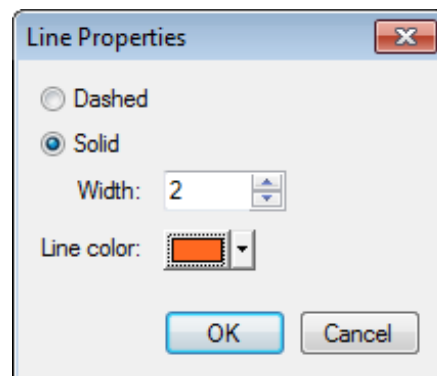

Figure 17 *Line Properties dialog*
- On the *GIS* tab, click on the wide button to the right of *Lines* (the button to the left of the drop-down arrow button) to bring up the *Line Properties* dialog (Figure 17).